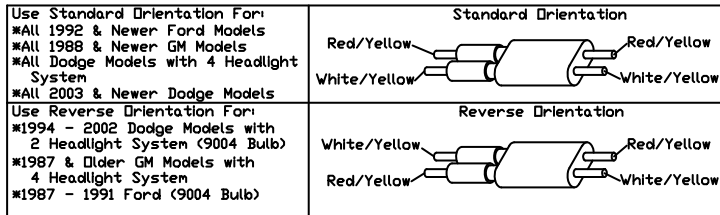

Figure 21. Vehicle Option Connector G10202
32. Locate vehicle option connector. Align the connector so that the arrow on the Vehicle Option Connector is positioned to match the vehicle it is installed on. This is illustrated in Figure 21.